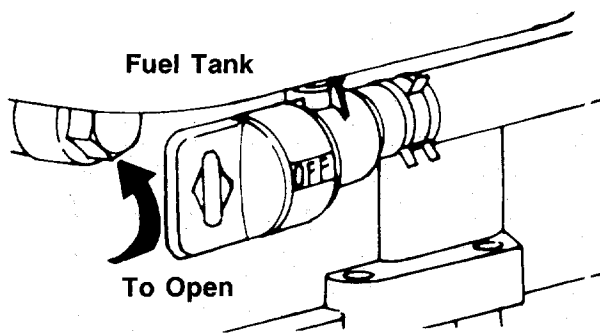

FIGURE 15.
2. **Deluxe Briggs and Stratton engines:** Open fuel shut-off valve. See figure 15.